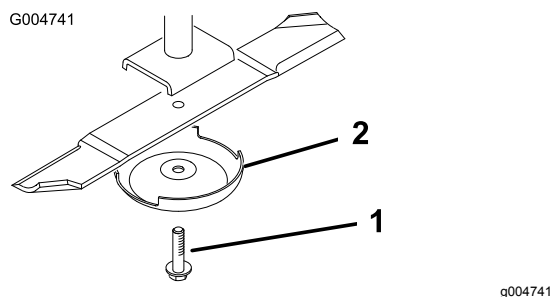

Figure 88
3. Remove the blade bolt, anti-scalp cup, and blade from the spindle shaft (Figure 88).